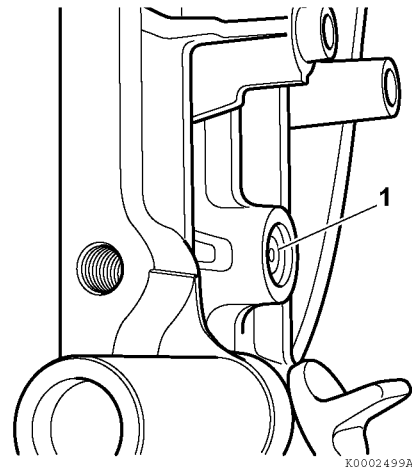

Figure 6-87
7. Carefully pry the seal (1, **Figure 6-87**) out of the bore.